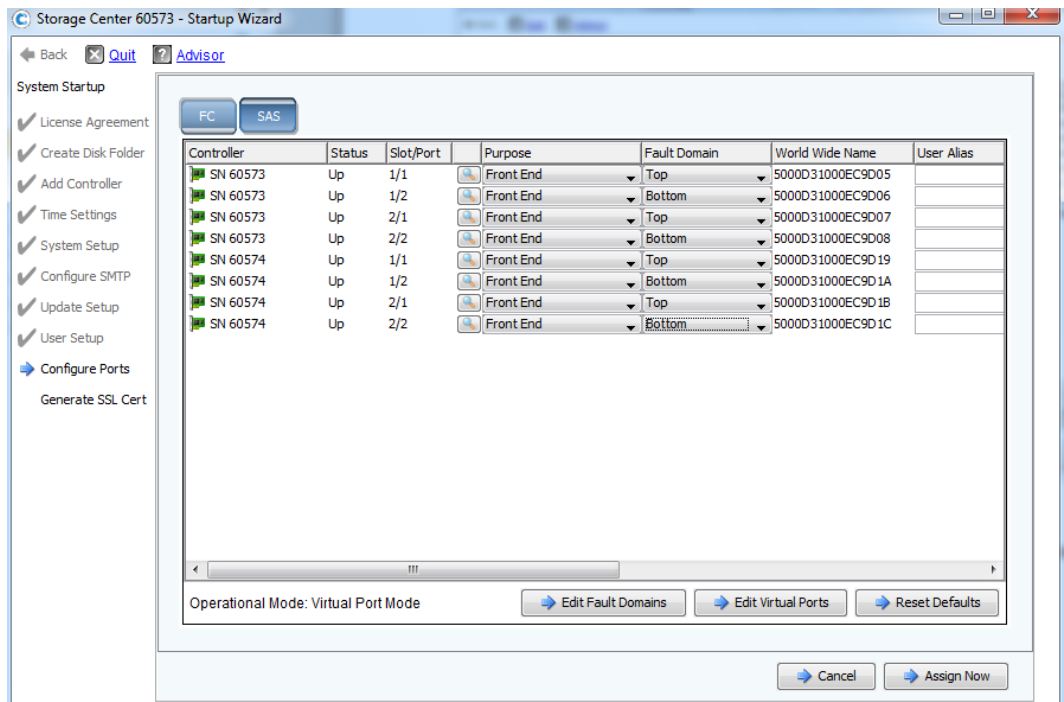

Figure 27. Configured ports
- 12. Ensure settings look like Figure 27, and then click **Assign Now**.